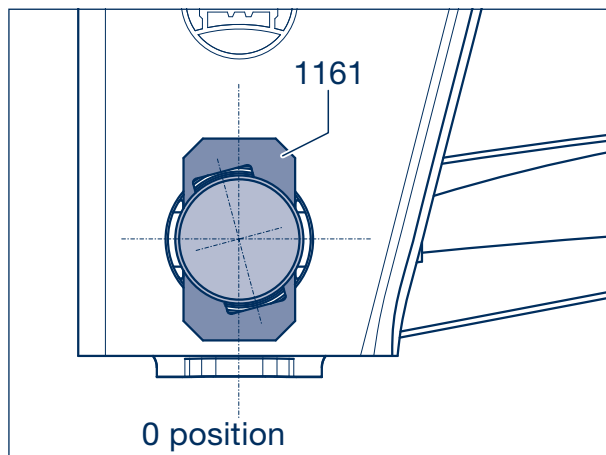

Figure 22
- [34] If a track correction is necessary, move the adjusting plates (1161) upwards or downwards evenly by tapping lightly with a hammer on both sides, depending on required adjustment direction (Fig. 22 and 23).